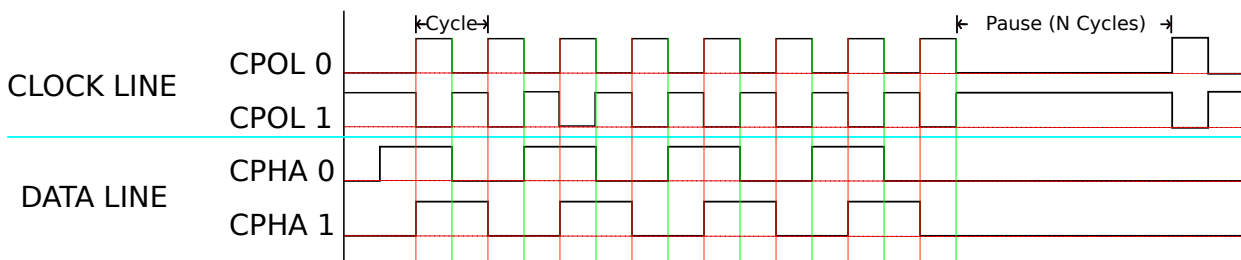

Figure 3.15: Serial Data transfer with 3x pause delay and 0xAA data
In this mode data is output in form of serial data (clock and data). The interface supports four different transmit modes, adjustable in clock polarity and clock phase. The relationship between the clock and data signals in the different modes can be seen in figure 3.15. You may insert an adjustable amount of pause cycles between data words in order to recognize a complete data cycle. It is possible to limit the desired range of values with the bit width and resolution shift. You may also set the polarity of the data line when it is idle. The interface sends all data with the **MSB first**.
- The *DDI Serial Clock Mode* property sets the clock polarity and phase (see figure 3.15).